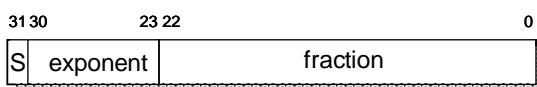

Fig. 1
1. Write the decimal number 2013 in IEEE 754 single precision floating-point format as shown in Fig. 1. (6%)